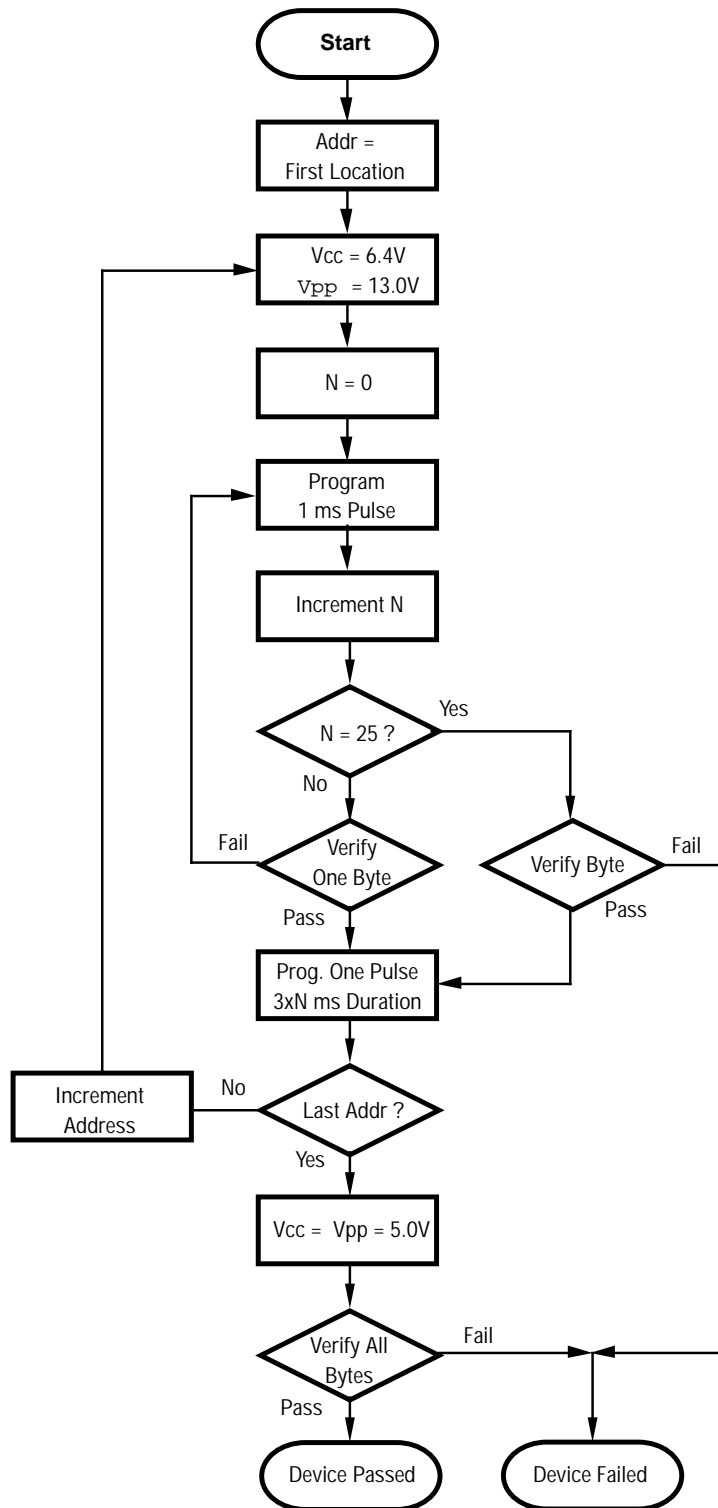

Figure 24. Z86E02 Programming Algorithm
**Programming Algorithm.** Figure 24 shows the flow chart of the Z86E02 programming algorithm.